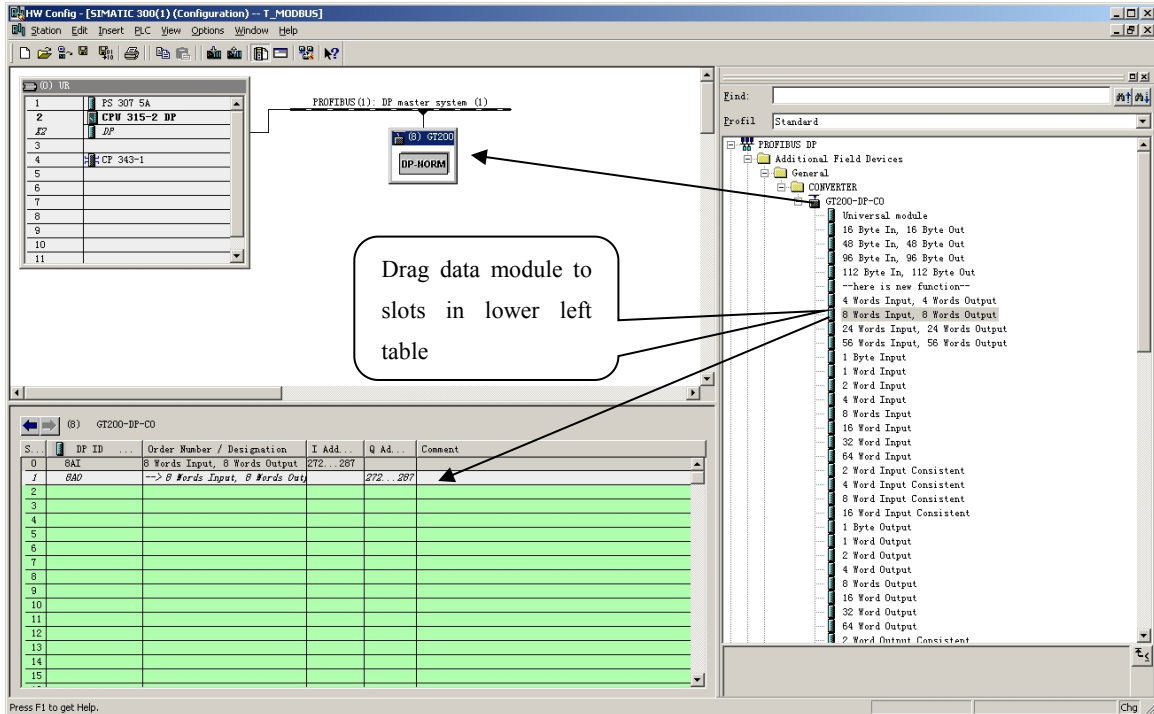

Figure 10
11. Drag GT200-DP-CO to PROFIBUS DP network bus, and drag data modules to slots, that is mapping the input and output data module into master controller's memory. Figure 10: